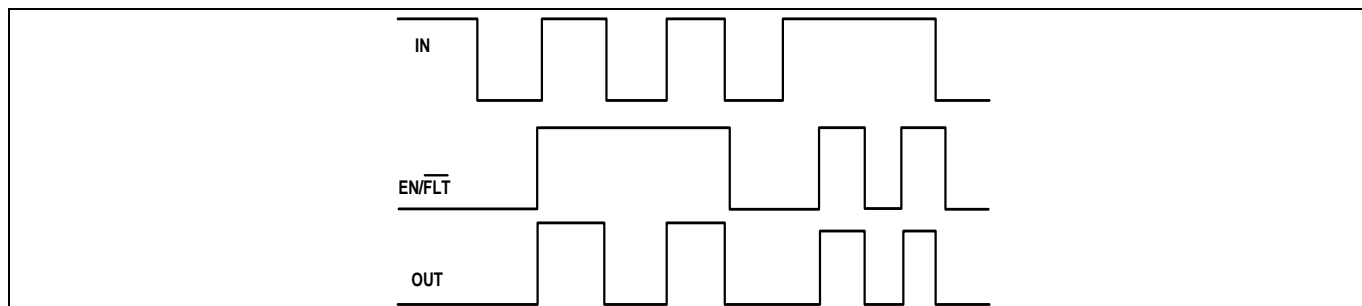

Figure 14 Input/output/enable pins timing diagram
The relationships between the input (IN), output (OUT) and enable (EN/ $\overline{\text{FLT}}$) signals of the 1ED44176N01F are illustrated below in Figure 14.